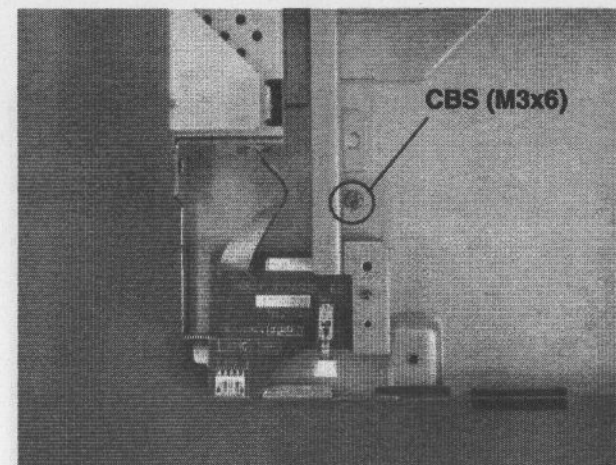

Figure 4-29. Sub Board Removal (1)
3. Remove one gold screw (CBS, M3x6), and the shield cover for the panel board. (See Figure 4-29.)
Figure 4-29 and Figure 4-30 show the cable with pin 1 (painted red) oriented toward the top of connector CN102 of the power supply. However, pin 1 of CN102 is toward the bottom of the power supply. Make note of the cable orientation during disassembly and do not rely on these figures for orientation.